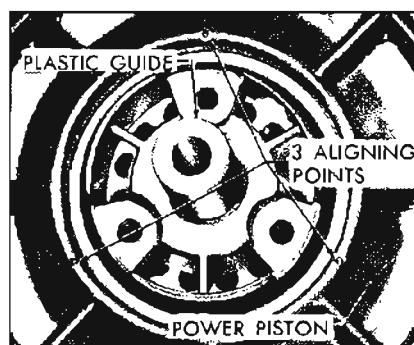

Figure 9-29—Aligning Points - Power Piston to Guide
8. Place the guide into the power piston, align the holes with the aligning points on the power piston (Figure 9-29), position the three screws, and torque to 80-100 inch pounds.